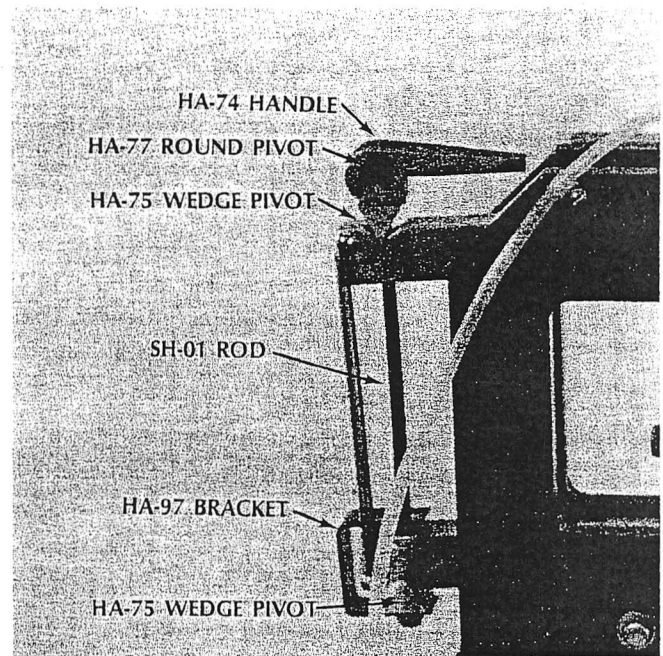

Fig 16
4. Install the new rod from the bottom. It should pass through the HA-97 Wedge Hold Bracket **round** hole, a HA-75 Saw Arm Pivot, the HA-06-X Bottom Arm, the HA-97 Bracket **slot**, the HA-01-X Top Arm, a HA-75 Saw Arm Pivot and into the HA-77 Round Handle Pivot (Fig. 16).